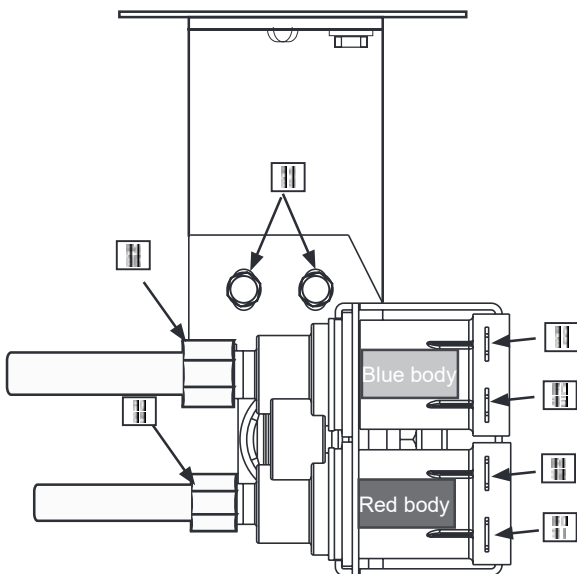
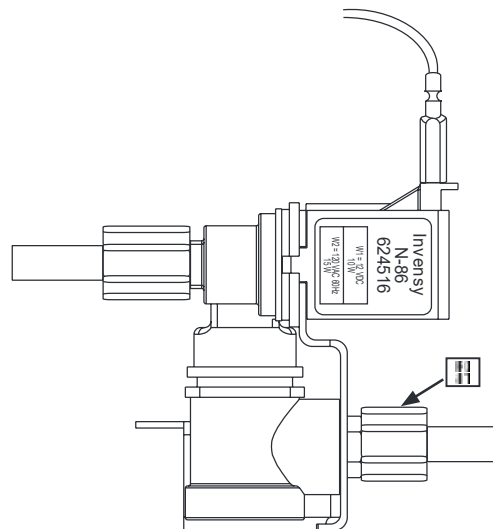

Figure. 11-5.— Water valve connections -Top View.
Figure. 11-6. —Water valve inlet connection -Side View.
To remove the water valve assembly proceed as follows and refer to Figure 11-5 and Figure 11-6.
10. Reverse steps 9 through 1 and see Figure 11-5 and Figure 11-6 to install the replacement water valve.